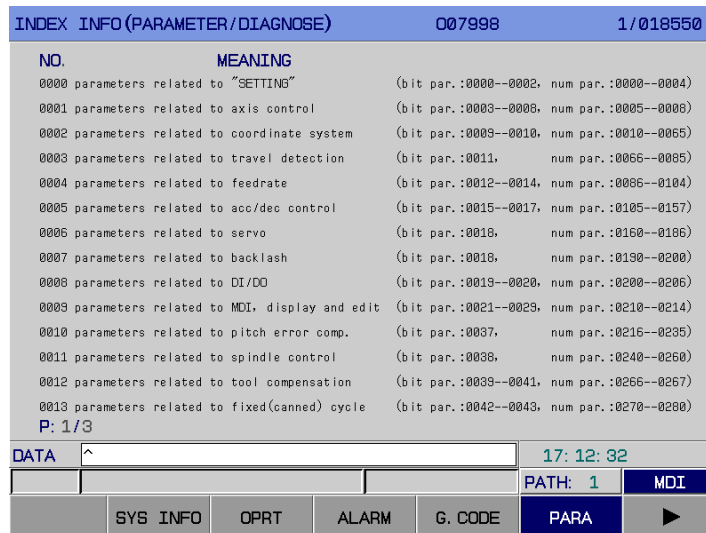

Fig. 3-9-6
5. Operation table interface Enter the help information (Parameter/Diagnosis table) page by **【PARAMETER TABLE】** softkey in <HELP> interface; refer to the Fig. 3-9-6: